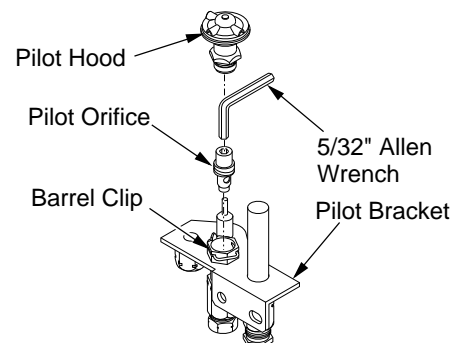

Figure 34 - Converting Pilot
1. Wait five (5) minutes to clear out any gas. Smell for any gas odor, especially near the floor. If any gas odor is present, STOP! See *For Your Safety Read Before Lighting* on page 12.
6. Remove pilot hood by pulling up until it disengages from barrel. Do not remove the retainer clip (see Figure 34).